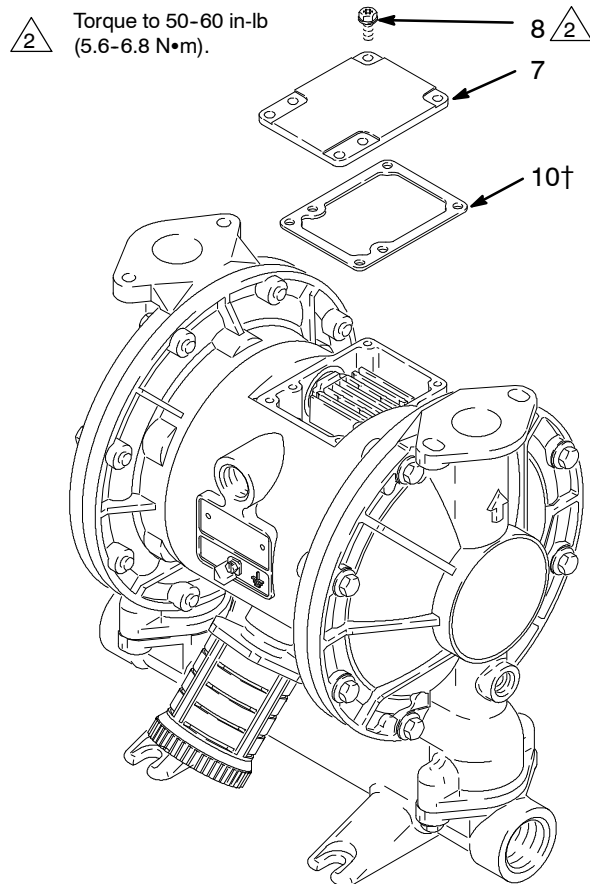

Fig. 8
2. With a Torx (T20) screwdriver or 7 mm (9/32") socket wrench, remove the six screws (8), air valve cover (7), and gasket (10). See Fig. 8.
10. Align the valve gasket (10†) and cover (7) with the six holes in the center housing (5). Secure with six screws (8), using a Torx (T20) screwdriver or 7 mm (9/32") socket wrench. Torque to 50-60 in-lb (5.6-6.8 N•m). See Fig. 8.